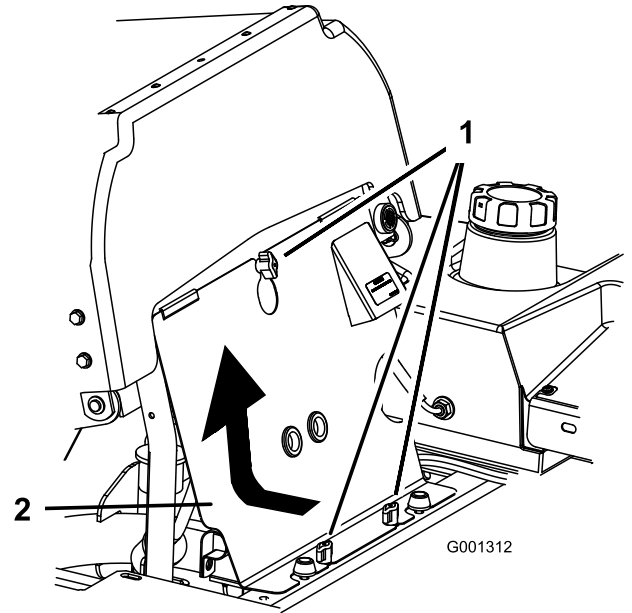

Figure 54
1. Tilt the seat forward and remove the front engine panel (Figure 54).